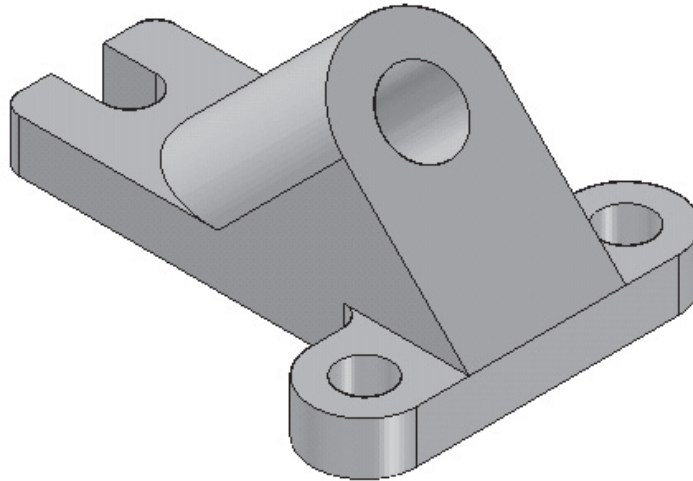

Figure 4-53 Final model for Tutorial 1
- Extrude the profile up to the next face to complete the feature, refer to Figure 4-53.
15. Press and hold the SHIFT key down and select the three base reference planes from the **EdgeBar**. Right-click and choose **Hide** from the shortcut menu to turn off the display of the base reference planes. The final model for Tutorial 1 is shown in Figure 4-53.